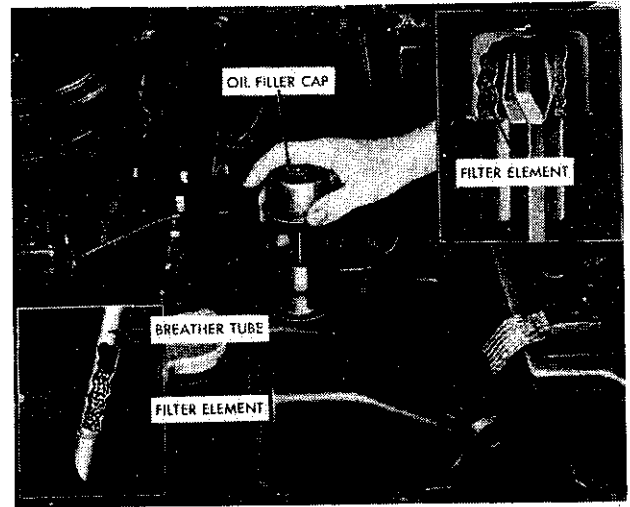

FIG. 119
**CHAMPION AND COMMANDER** The crankcase is ventilated by the passage of air through the oil filler cap, to the crankcase, and out of the breather tube. An oil-coated filter element is contained in both the filler cap and the breather tube. The element in the breather tube is held in place with a cotter pin. (See Fig. 119.)